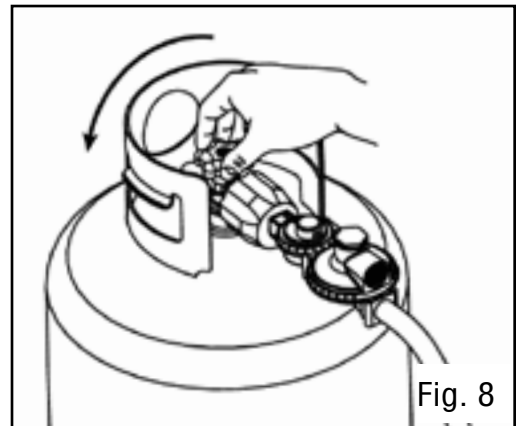

Fig. 8
3. Connect the opposite regulator connecting hose end to the generator's LPG primary regulator with a 3/4 in. (19mm) wrench (not supplied) (Fig. 8).